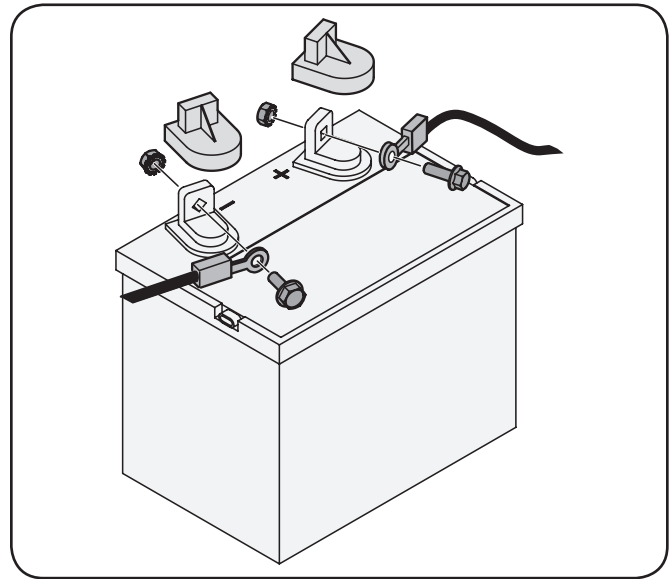

Figure 3-4
1. Remove the plastic cover, if present, from the positive (+) battery terminal and attach the red cable to the positive (+) battery terminal with the bolt and hex nut. See Fig. 3-4.
2. Remove the plastic cover, if present, from the negative (-) battery terminal and attach the black cable to the negative (-) battery terminal with the bolt and hex nut. See Fig. 3-4.